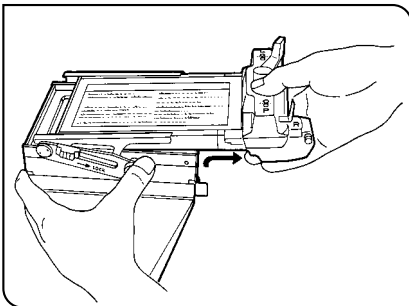

Fig. 30
2. Hold the film holder by the right edge and pull it out while lifting it slightly. (Fig. 30)